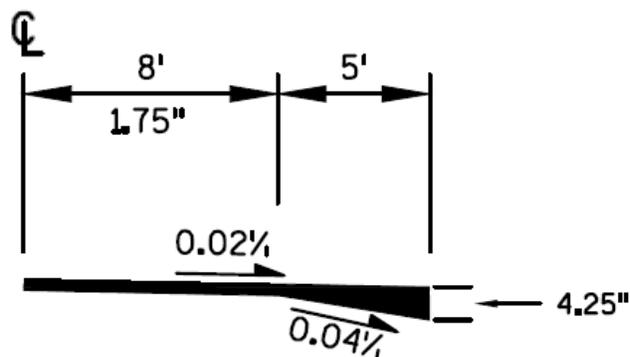

Figure 3 - WIS 52 half section with increased slope and wedging
2. The remaining 10 feet of roadway (5 feet on each outside edge) would be milled (See Figure 3) to remove approximately 4.25 inches at the outer edge of asphalt.